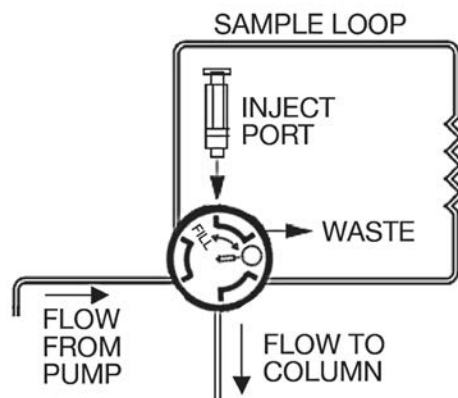

Figure 7.10. MV-6 in Sample Load position, turned as far left as possible.
1. Make sure the MV-6 injector valve knob counter is turned counterclockwise (left) as far as it will go (Figure 7.10).